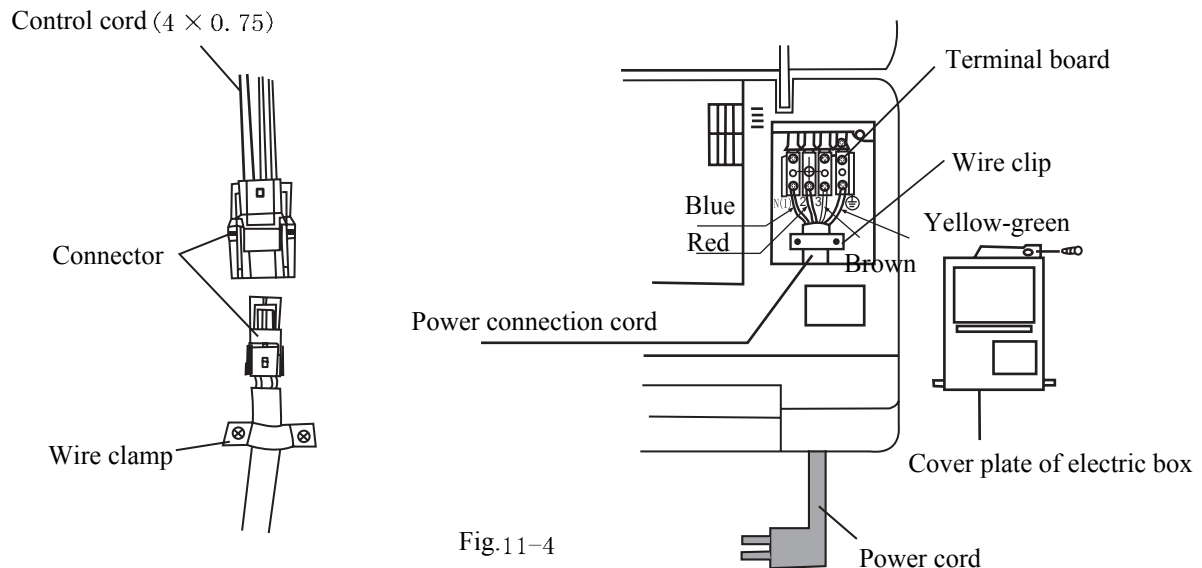

Fig.11-4
2. Screw off the fixing screw of wiring cover. (As shown in Fig.11-4)
4. Connect the blue wire of the power connection cord to the terminal "N(1)", the red one to "2", brown one to "3", and the yellow-green one (earth wire) to "⊥" (as shown in Fig.11-4); and use the wire clamp to fix the wire.
5. For the heat pump type, connect the control cord (4x0.75) to the indoor unit through the connector (see Fig.11-4), and fix it with the wire clamp.